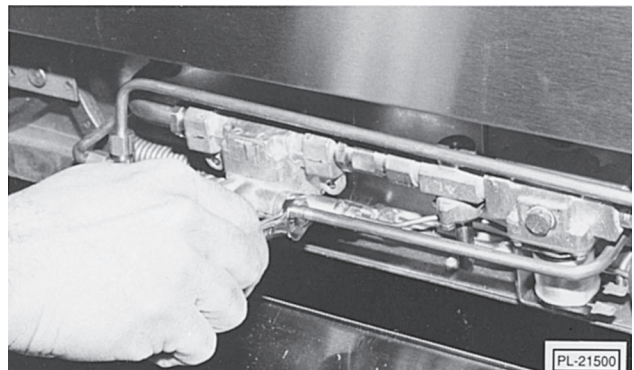

Fig. 70
4. Disconnect pilot tubing at safety valve (Fig. 70).